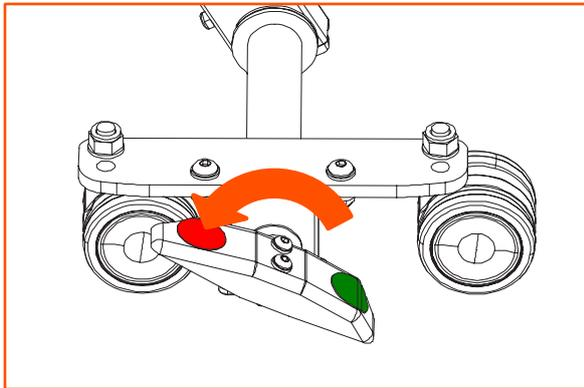

Figure 14.3
1. To lock the brake, press firmly downwards on the side of the pedal with the red label as shown in Figure 14.3 until it locates.